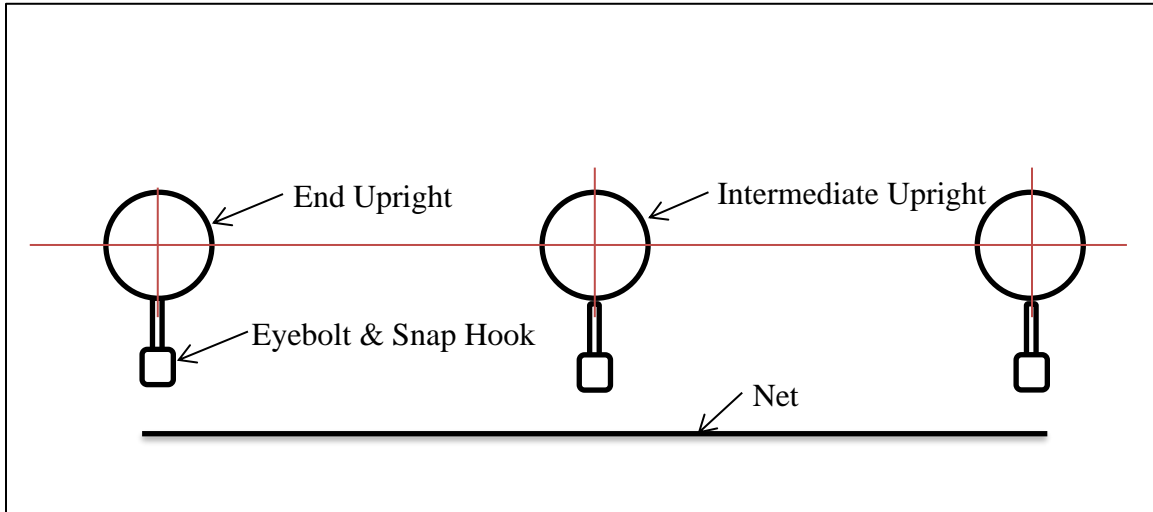

Figure 5
1. Note orientation (see Figure 5).